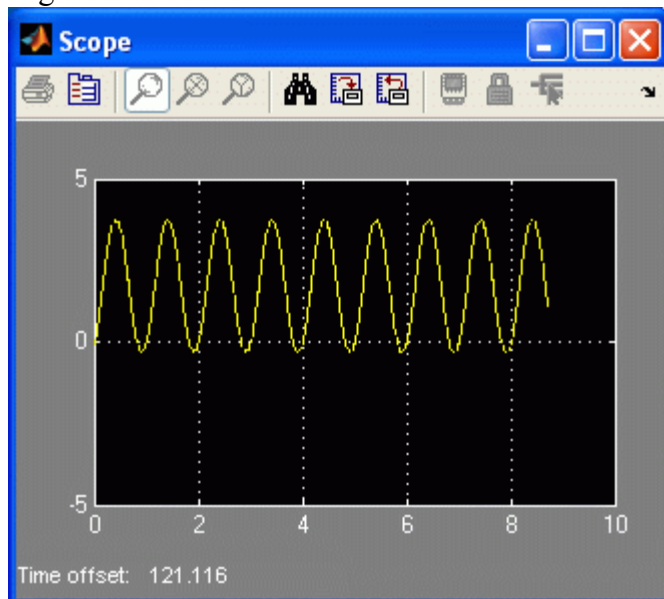

Figure 4: Reading raw voltage from the SRV02 potentiometer.
11. Click on *QuaRC | Start* to execute the code. As the SRV02 rotates back-and-forth, the Scope should display the potentiometer readings similarly as shown in Figure 4. Remark that the readings shown are the voltage output of the potentiometer and not an angular measurement in degrees or radians.